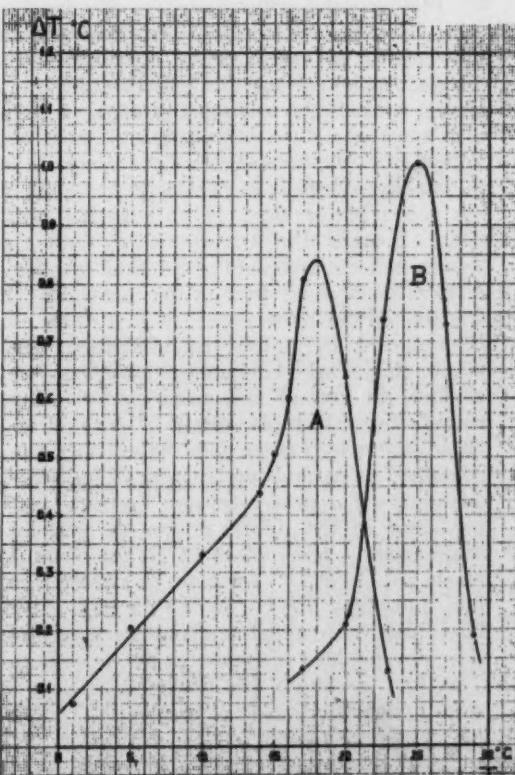

Fig. 18. Temperature rise above surroundings, due to $\alpha \leftrightarrow \beta'$ transformation, for (A) Cacao butter (B) Borneo tallow.
transformation, but mostly by the $\alpha \leftrightarrow \beta'$ transformation. Fig. 18 shows the curve representing these temperature differences for a 2 g sample of cacao butter (A), compared with a similar curve for a sample of Borneo tallow (B). For the cacao butter, the temperature difference and consequently the heat evolved increases to a maximum at 18° C (64.5° F) after which it falls off rapidly to zero at a temperature of about 24° C (75° F) corresponding to the mid-melting point of the β' -form. The maximum for the Borneo tallow lies about 7° C (12.5° F) higher, as might have been expected from its higher melting range. For the α -form also, the rate of nuclei-formation increases with decreasing temperature in the range from 14° C (57° F) to -15° C (5° F) while the growth rate appears to increase when the temperature is increased. Both are naturally extremely fast as compared to the similar rates for the β -form, which itself crystallizes much faster than the β' -form. This is still more true of the γ -form which crystallizes in a few seconds at the most. As this is the least stable form it always crystallizes from the melt and the rate of nucleation can be determined from the curve representing the time elapsed between cooling to a given temperature (in a fine capillary) and incipient crystallization, as a function of temperature. We have determined such curves for many samples of cacao butter and mixtures with other fats (43). The curve representing the inverse of these crystallization delays is in fact a so-called Tammann curve, which gives the relative nuclei-formation rate in